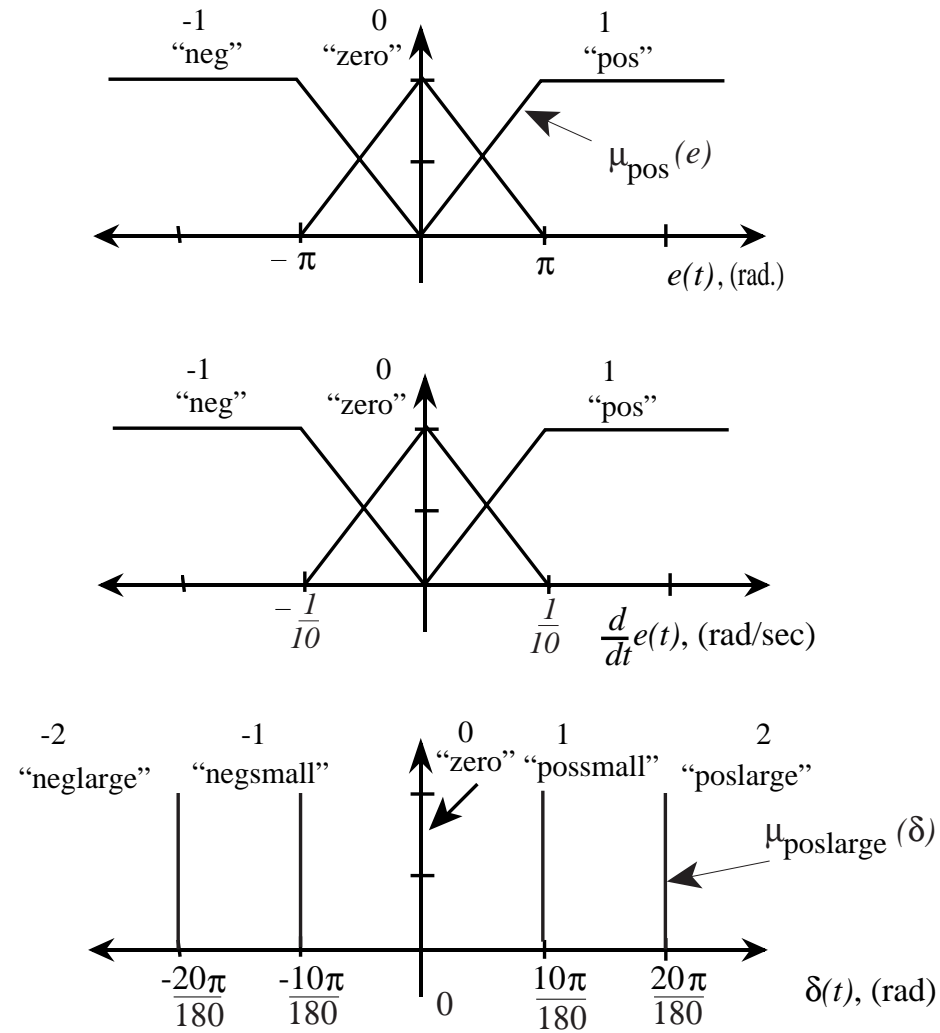

Figure 5: Membership functions for inputs and output.
- Quantify the meaning with “fuzzy sets” (“membership functions”), as shown in Figure 5